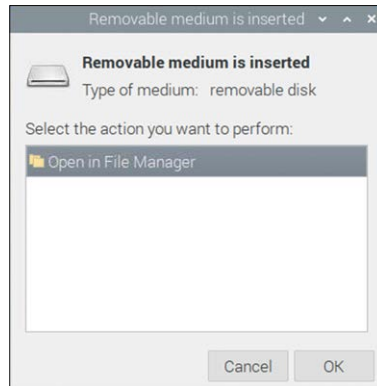

Figure 2.1: Click OK.
- You should see the Pico appear as a removable drive. Click **OK** in the **Removable medium is inserted** window (Figure 2.1).